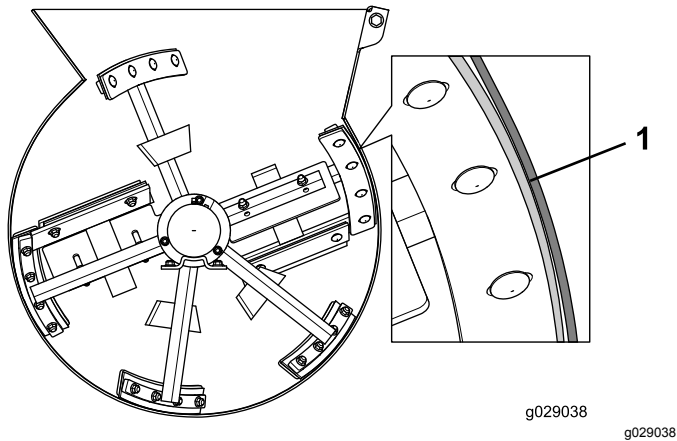

**Figure 72**
4. Loosen the carriage bolts and flanged locknuts that secure the paddle blade and wiper to the paddle (Figure 72).